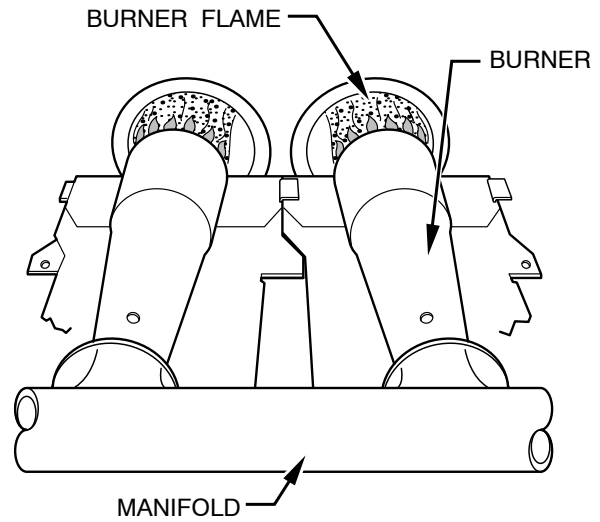

Fig. 59 - Burner Flame
- f. Replace burner enclosure front and verify adjusted gas input rate using method outlined in item 3.
- g. Look through sight glass in burner enclosure and check burner flame. Burner flame should be clear blue, almost transparent. (See Fig. 59.)